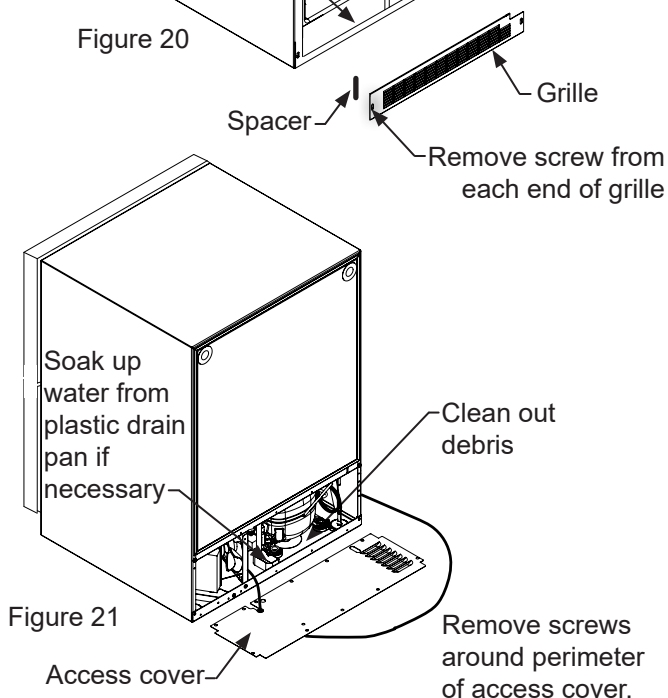

Figure 21
10. Remove the rear access cover, (see Figure 21), and use a brush and vacuum to clean dirt and debris from the machine compartment.